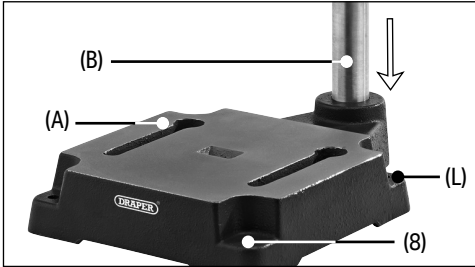

Fig. 1
1. Insert the solid bar column (B) into the base (A) – tighten the two grub screws (L) on the base with the hex key (D) supplied. (Fig.1)
- **Important:** Ensure that the stand is fixed to the worksurface with suitable bolts (not supplied) using the four mounting holes (8) in the base.